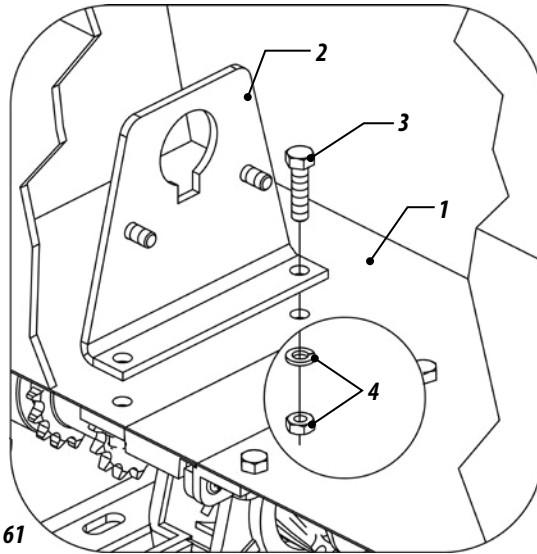

Figure 61
- 2- Place on the bottom of the seed box (1) the support (2) with screw (3), washer and nut (4), Figure 61;